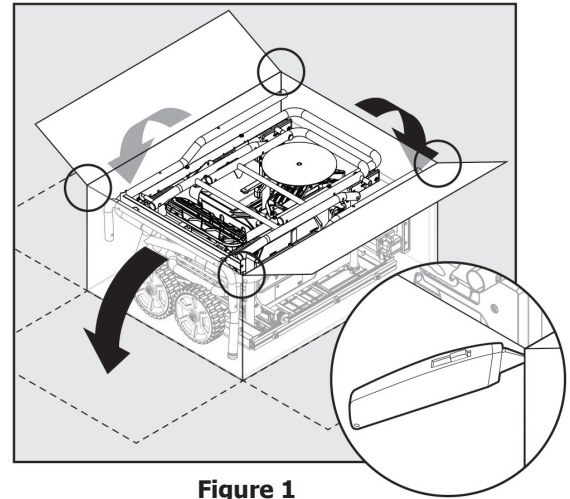

Figure 1
2. Cut sides of Box at all four corners. See Figure 1. Leave the saw body upside down in packaging and proceed to next page with assembling the sub-components.